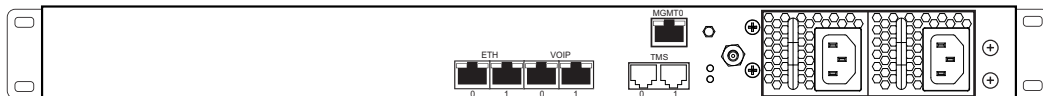

Figure 1.3 TSBC-HW-TRANS
The TSBC-HW-TRANS, shown in figure 1.3 on page 4, is available in two models:
- One TSBC-HW-TRANS unit (TSBC-HW-TRANS-1372 or TSBC-HW-TRANS-2744). See figure 1.3 on page 4.